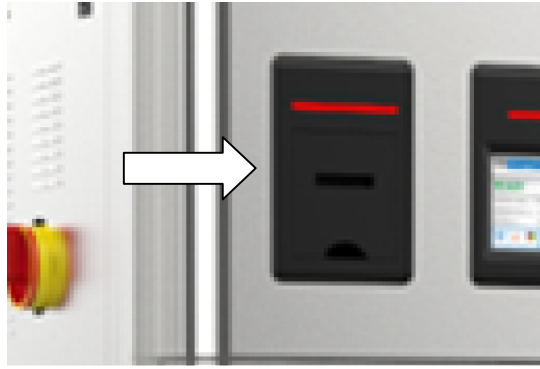

Fig. 2
1. Open the printer's cover door by pulling it at the bottom (see fig. 2).
7. Close the printer's cover door (3) by pressing corner (2), with the tip end of the paper emerging from the slot (1). See Fig. 2.